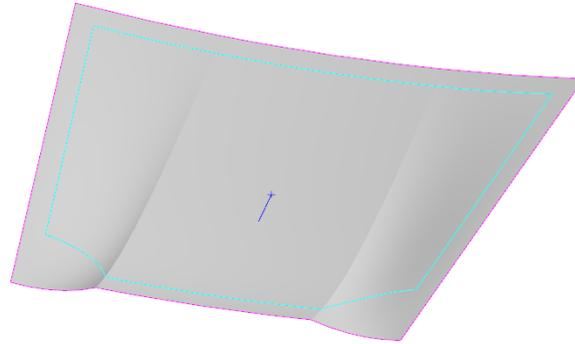

Figure 6–2
1. Open **UTILITIES_A.prt**. The model displays as shown in Figure 6–2.